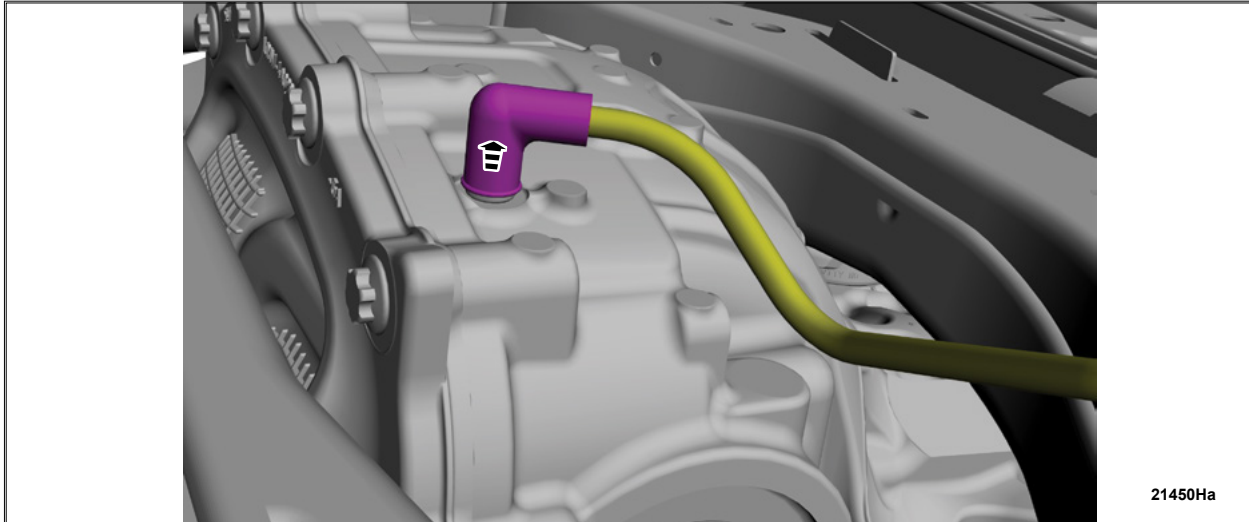

FIGURE 9
16. Disconnect and position the axle assembly vent hose aside. See Figure 9.